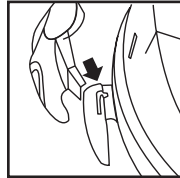

FIGURE 9
9. Place “J” shaped tabs into the slots on cord wraps. **FIGURE 9.** Press down until tabs snap into place.